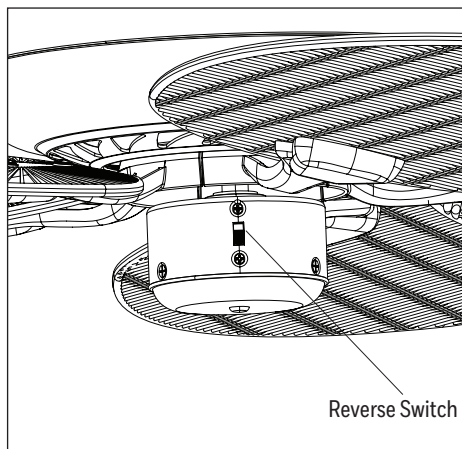

Figure 6.2
2. Use the reverse switch located on the switch housing to optimize your fan for seasonal performance. **In warmer weather**, push the reverse switch down which results in downward airflow creating a wind chill effect. **In cooler weather**, push the reverse switch up which results in upward airflow that will help move hot air of the ceiling (Figure 6.2).